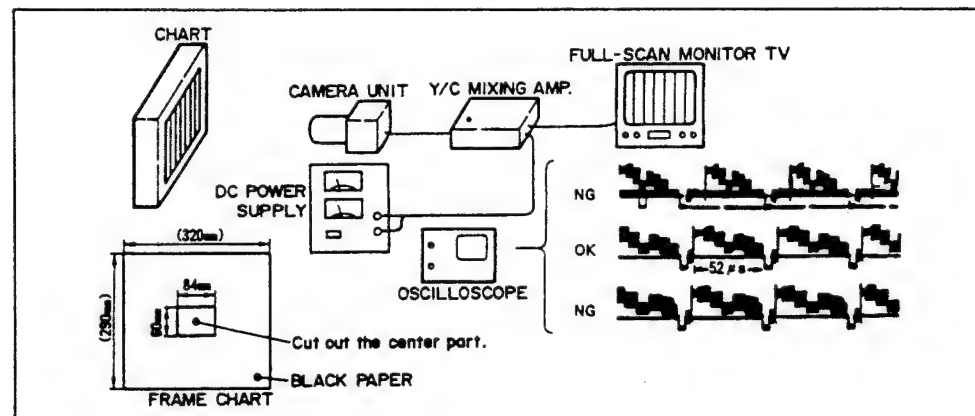

Fig. II-3
(1) Before adjustments, warm up the camcorder for more than 3 minutes.
(2) Use a light box of 5600°K temperature.
(3) Make a frame chart as illustrated in Fig. II-3.
(4) Set the standard angle of view for each chart as follows.
(Fig. II-3)
To make a standard angle of view with an oscilloscope, set the range to 20  $\mu$ s (video signal) as shown in Fig. II-3 and align the each center of chart and screen.